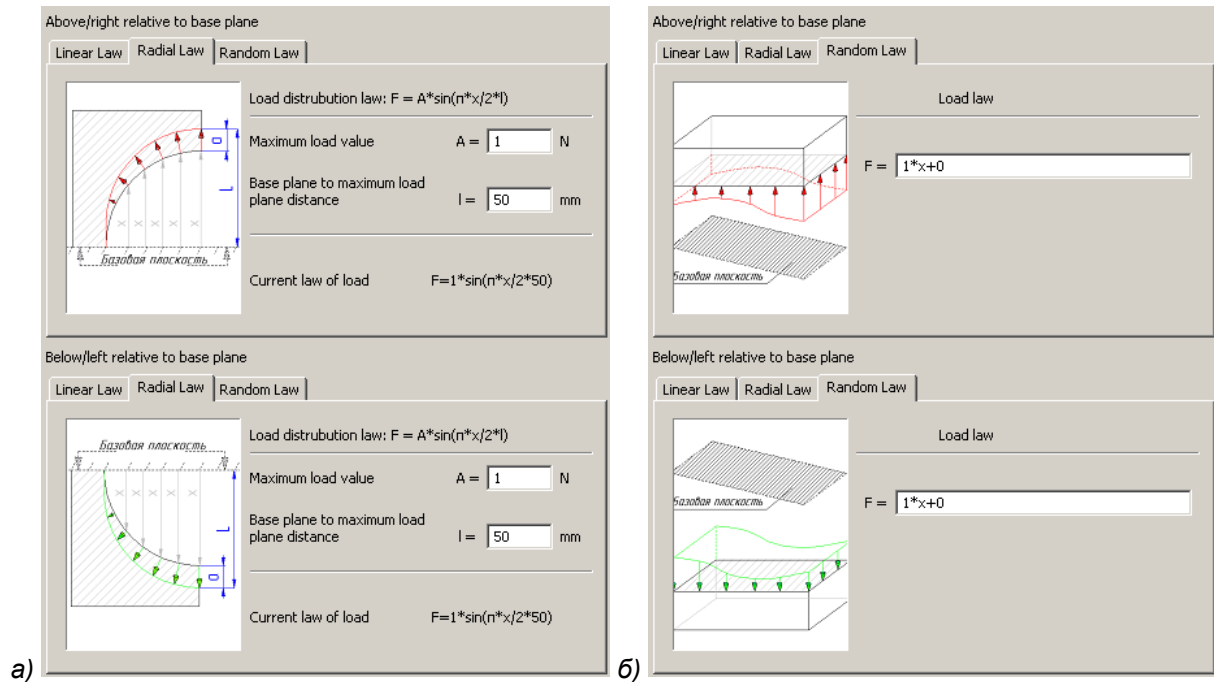

Fig. 2.9.20 Radial law and random law
*Radial Law* (fig. 2.9.20 a) corresponds to equation  $F = A \cdot \sin(n \cdot x/2 \cdot l)$ , [N] and is set by the *maximum load value*  $A$ , [N], and the *distance between base plane and maximum load plane*  $l$ , [mm].
*Random Law* (fig. 2.9.20 b) allows to set *load distribution law* in view of an optional analytic dependence.